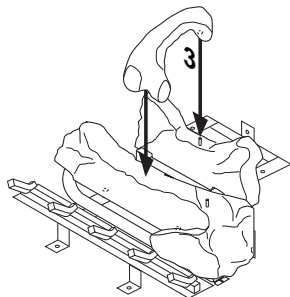

Figure 46 - Installing Log No. 3
3. Place log #3 (crossover log) onto rear and front logs. Make sure it is seated properly on smooth surface of front log and pin on back log as shown in Figure 46, page 26.